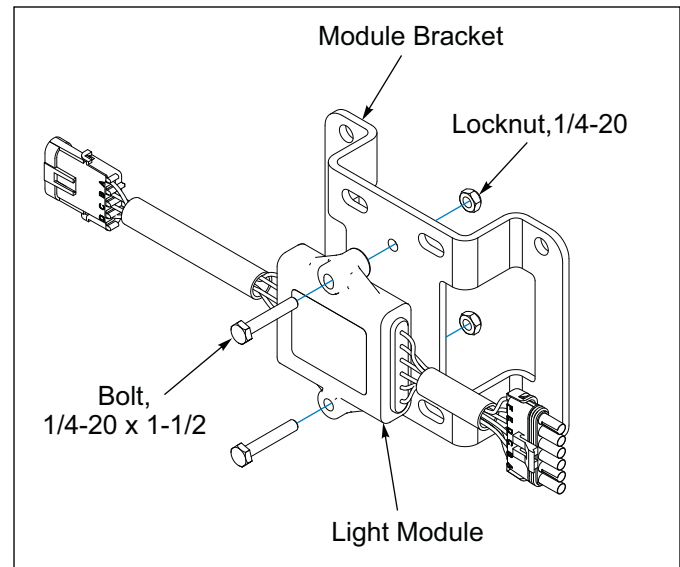

Figure 2-41: Light Module and Bracket
5. Attach the Light Module to the Module Bracket with 1/4-20 x 1-1/2 Bolts and Locknuts. See Figure 2-41.